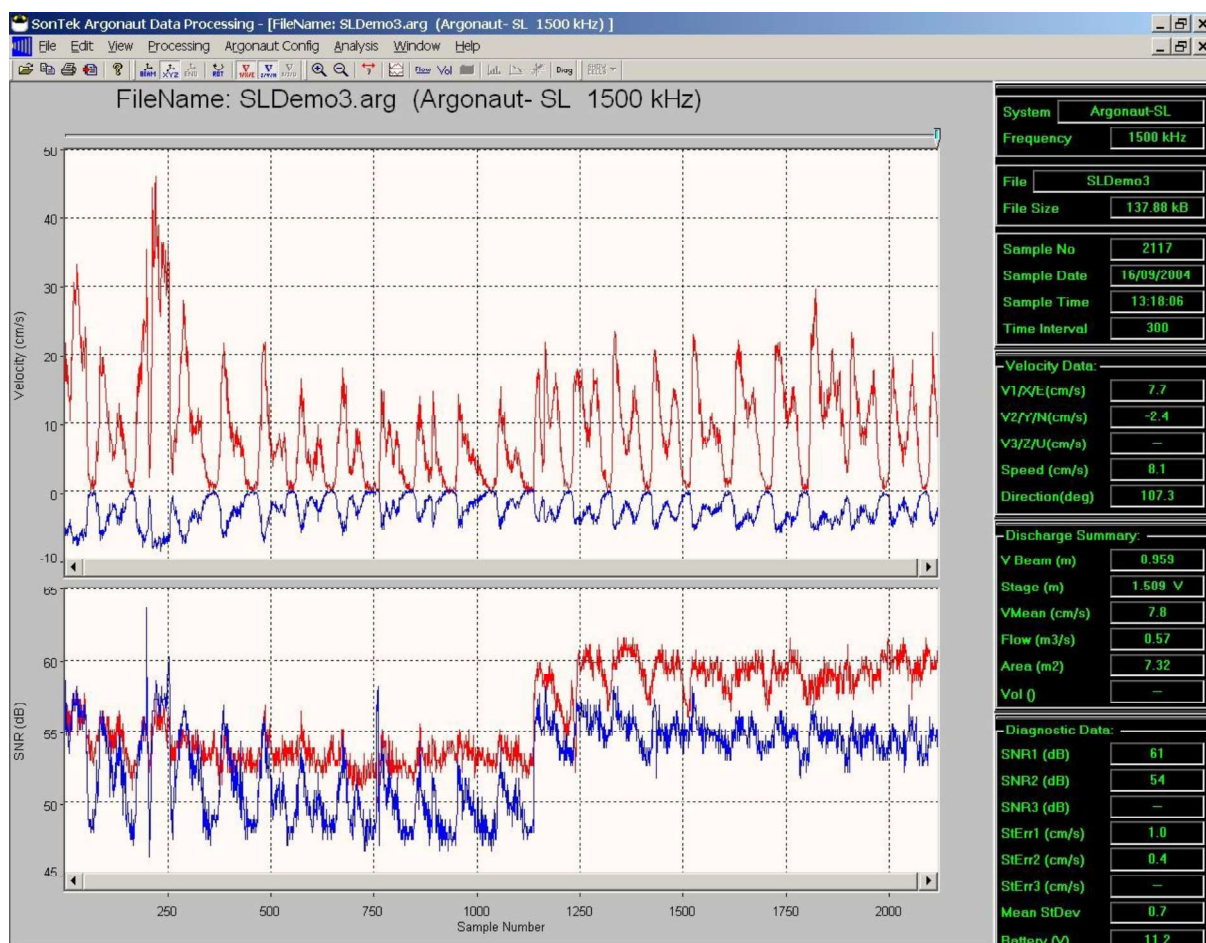
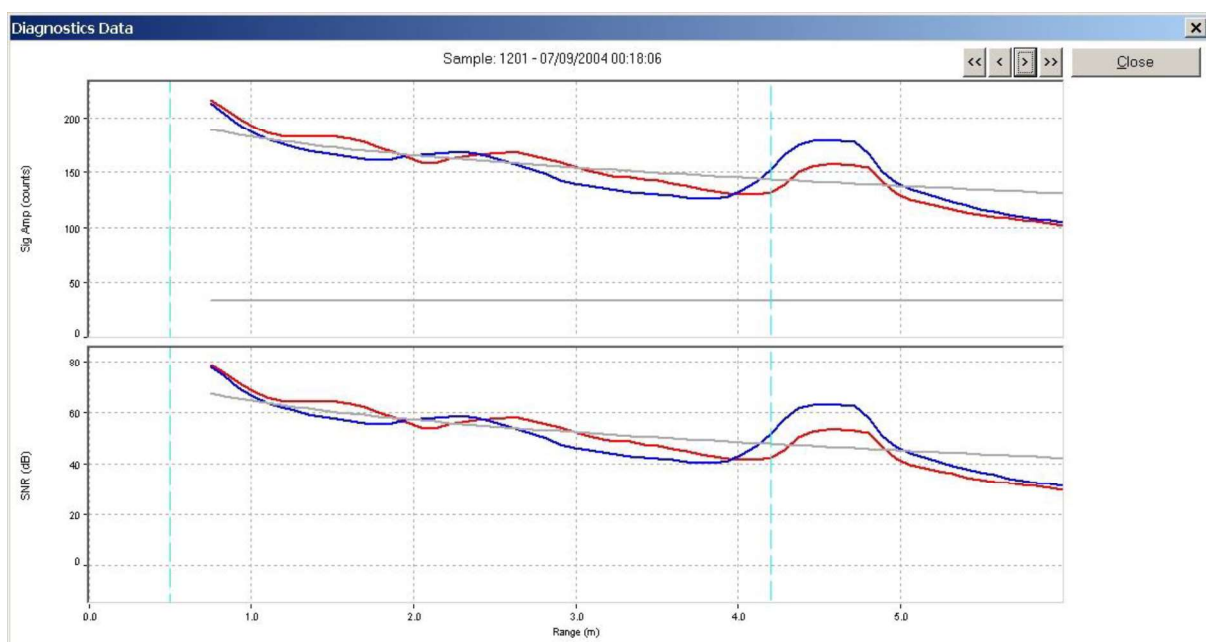

Figure 6-10. Sample Data File 3(SLDemo3.arg) – Velocity and SNR
Figure 6-12. Sample Data File 3(SLDemo3.arg) – Signal Amplitude and SNR Diagnostic Data
The SLDemo3.arg data file represents 22 days of data collected with a 1500-kHz SL with a measurement range of about 4 meters in a small, rectangular, concrete lined canal. Flow in this canal is driven by pumping from a nearby water treatment plant, and follows a daily cycle. The user was concerned, as measured velocity and flow values were lower than expected. **Figure 6-10** shows plots of velocity (top graph) and SNR (bottom graph) over the 22-day deployment.
Figure 6-12 shows the internal diagnostic data for one sample (1201).
- The light blue, dashed vertical lines in **Figure 6-12** show Cell Begin and Cell End.
- **Figure 6-12** has been zoomed in to show a range of 0 to 6 meters.
- **Figure 6-12** shows an example of this variation. In particular, notice the small bumps (or waves) in signal strength over the range of 1 to 3 meters.
- This explains the changes in SNR shown earlier in **Figure 6-10**, and the fluctuations in the signal strength profile seen in **Figure 6-12**.